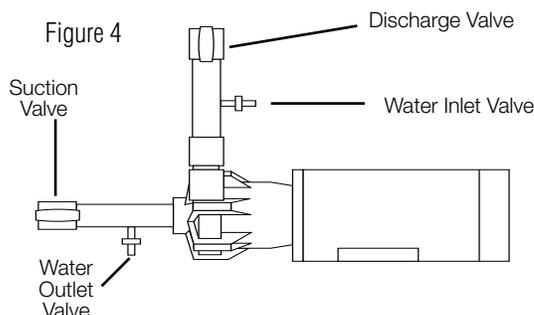

Figure 4
**CAUTION:** To stop the pump if prime is lost, use one of the following: (1) pressure switch on the discharge, (2) vacuum switch on the suction, (3) a motor minder to monitor motor current.
12. When pumping liquids that may solidify or crystallize, a flush system should be added to the piping. See Figure 4. Install water inlet and outlet valves as shown.